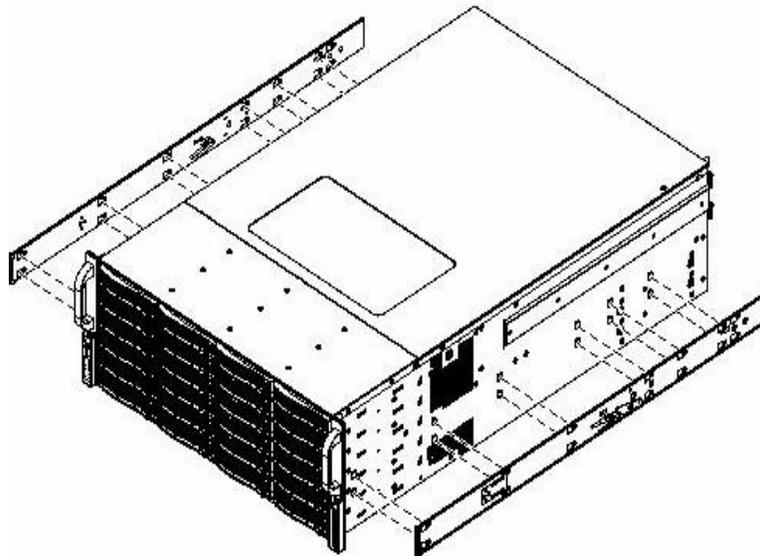

Figure 3-4 Installing the Inner Rail Extensions
1. Place the inner rail extensions on the side of the chassis aligning the hooks of the chassis with the rail extension holes. Make sure the extension faces "outward" just like the pre-attached inner rail (see Figure 3-4).